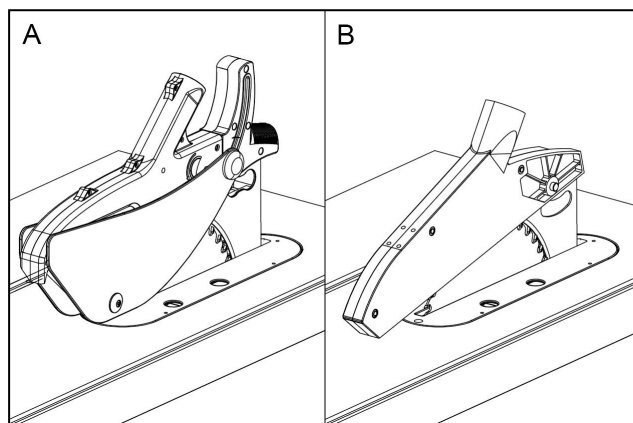

Fig.12
3. **Fig.12 (A)** shows the blade guard, meeting the UL62841 standard, is suitable for the North American market. **Fig.12(B)** shows the blade guard meeting the CE standard. For different markets, the machine is equipped with different blade guards, please refer to the chapter "**3. Machine Description**" for detailed information.